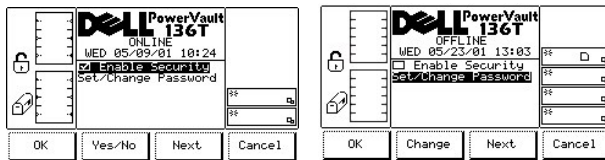

Figure 77. Setup > Utils > Secure Dialog
When Secure is selected, the Secure Dialog is displayed. See Figure 77. This option allows the user to enable or disable operator panel security and set or change the library password.
- If **Enable Security** is the active field that is blackened, see Figure 77:
- If **Set/Change Password** is the active field that is blackened, the **Yes/No** softkey becomes a **Change** softkey, see Figure 77.
- If the button beneath the **Next** softkey is pressed, the next field *Enable Security*, is made the currently active field, see Figure 77.
Set/Change Password is the currently active blackened field. Refer to Figure 77. If the button beneath the **Change** softkey is pressed, then **OK** is selected, the Change Password Dialog is displayed.